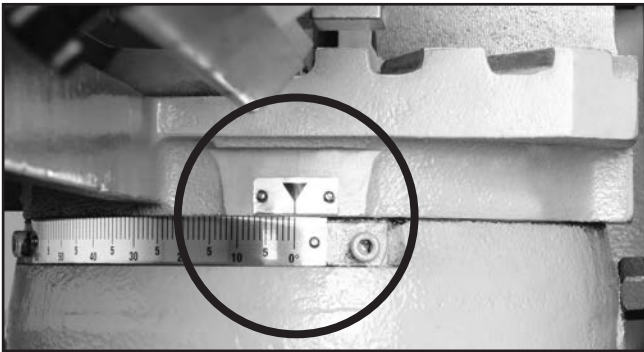

Figure 49. Bow and headstock moved to zero.
3. Raise the bow, move and lock the headstock to zero (**Figure 49**), then lower the bow.